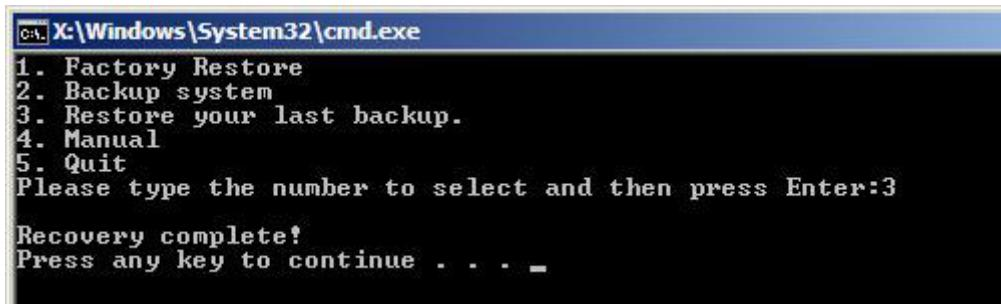

Figure B-32: Restore System Backup Complete Window
Step 3: The screen shown in **Figure B-32** appears when backup recovery is complete.